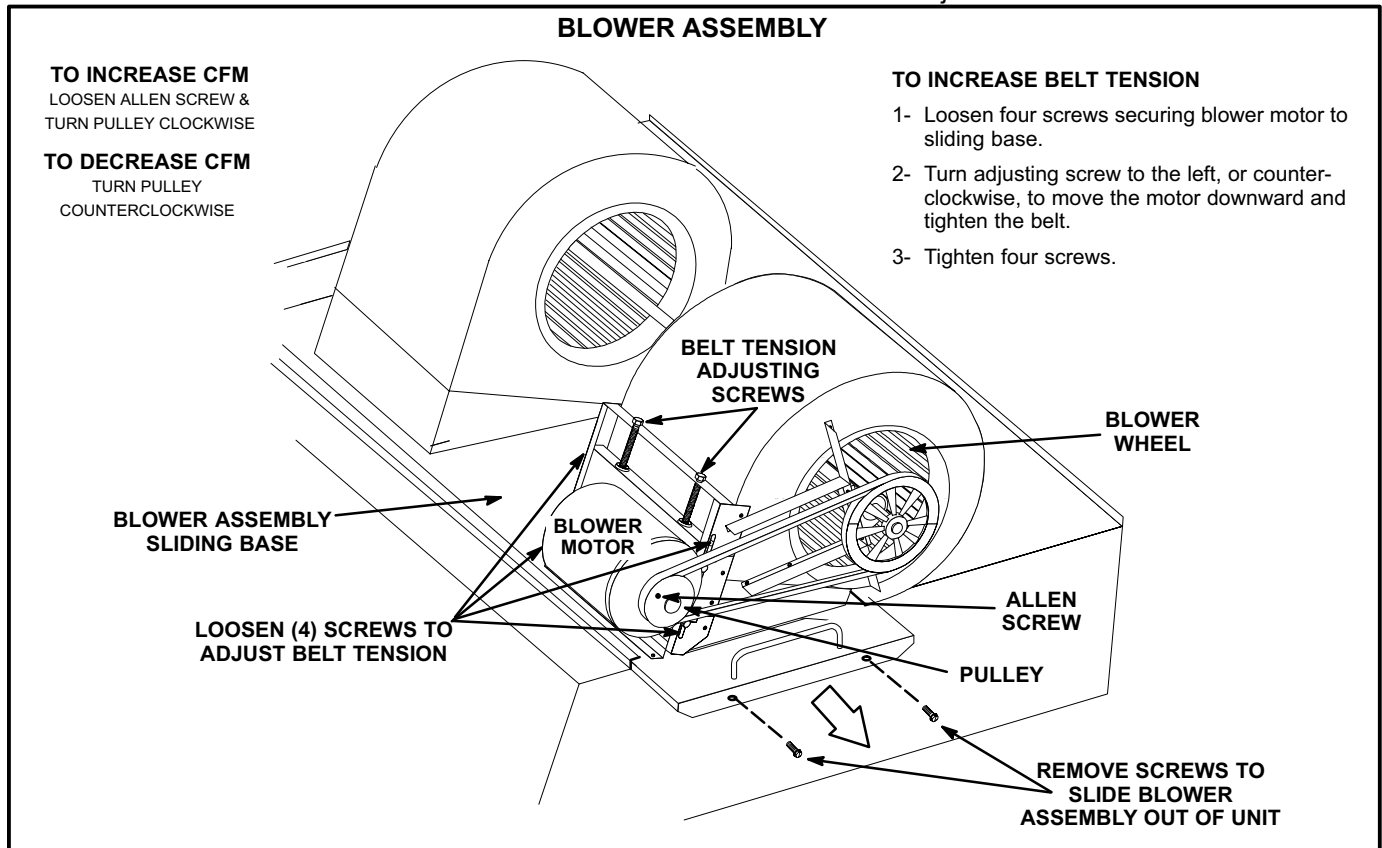

FIGURE 8
The blower assembly is secured to a sliding base which allows the entire assembly to be pulled out of the unit. See figure 8.
- 5- The blower RPM can be adjusted at the motor pulley. Loosen Allen screw and turn adjustable pulley clockwise to increase CFM. Turn counterclockwise to decrease CFM. See figure 8.
- 1- Loosen four screws securing blower motor to sliding base. See figure 8.